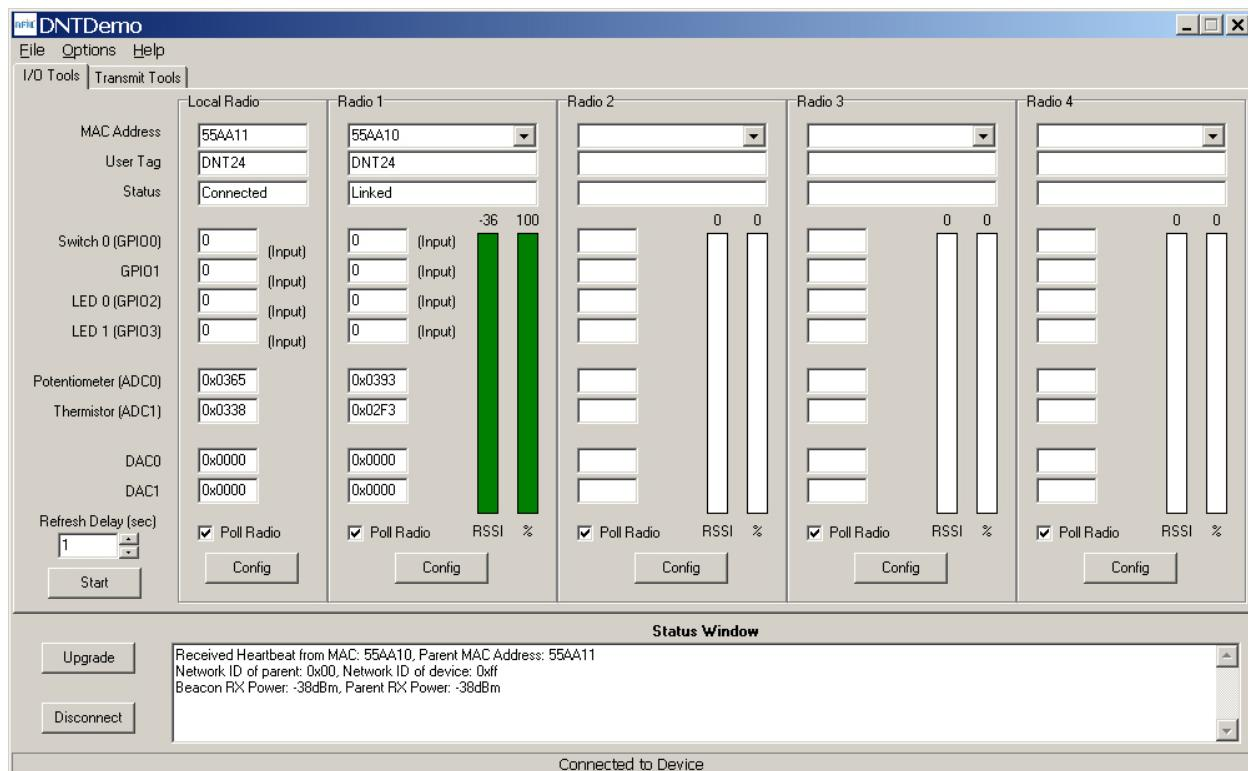

Figure 8-8 Start Button
7. The Demo will display data on the *Remote* in the *Radio 1* column, including bar graphs of *RSSI* (signal strength) and *percent packet success rate*, as shown in Figure 8-8. Adjusting the pot on the *Remote* can be observed in the *Potentiometer (ADC0)* data. You can change the *Refresh* setting from the drop down menu at the bottom left. Adjusting the pot on the base can be observed in the *Potentiometer (ADC0)* data in the *Local Radio* column.